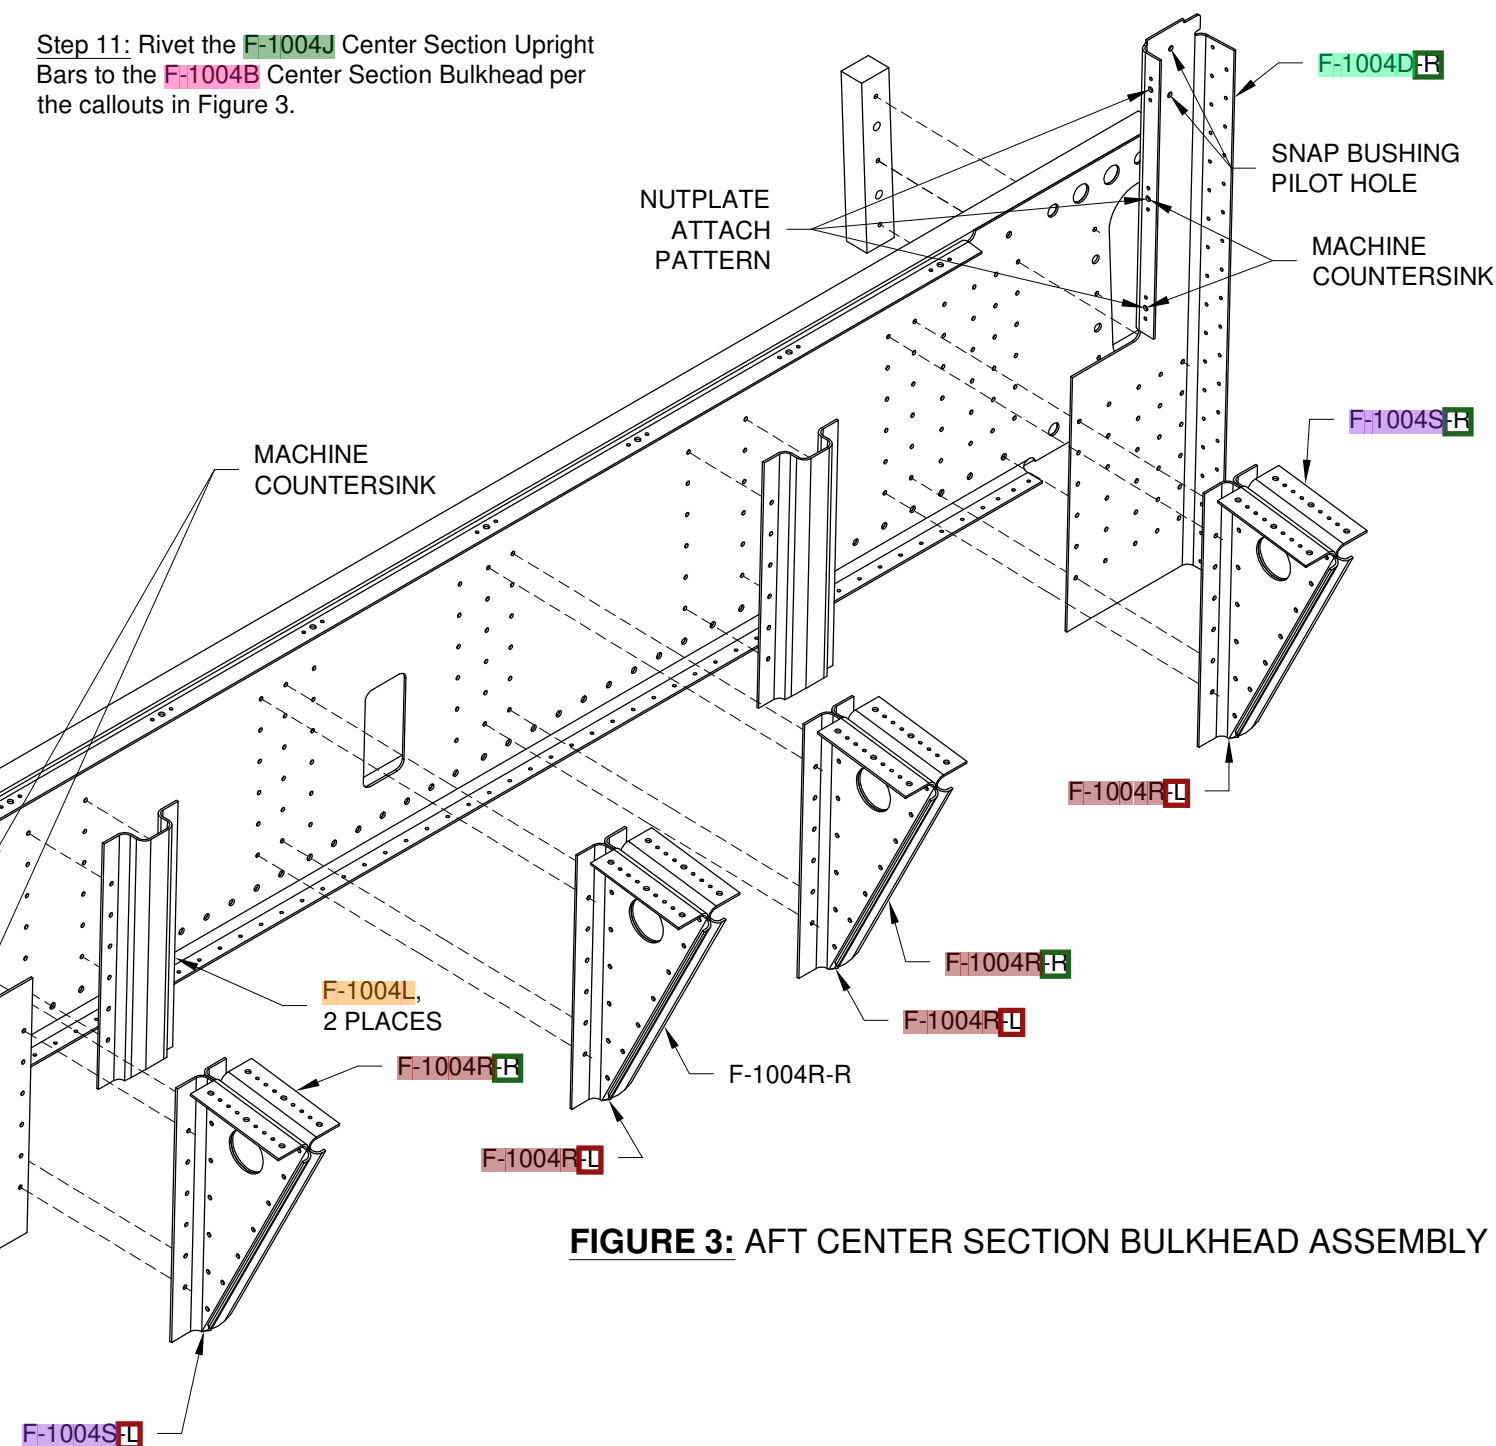

FIGURE 3: AFT CENTER SECTION BULKHEAD ASSEMBLY
Step 8: Disassemble the aft center section bulkhead assembly and deburr all edges. Enlarge the snap bushing pilot holes as indicated in Figure 3 to 3/4 diameter. Machine countersink the all nutplate attach holes for the head of an AN426AD3 rivet. Machine countersink the #30 holes on the forward side of the F-1004J Center Section Upright Bars for the head of an AN426AD4 rivet. Prime the center section upright bars. Prime the remaining parts if/as desired.
Step 11: Rivet the F-1004J Center Section Upright Bars to the F-1004B Center Section Bulkhead per the callouts in Figure 3.
Step 3: Rivet the F-1004D-L and -R Center Section Bulkheads, F-1004L Center Section Hat Stiffeners and Aft Seat Rail Support Subassemblies to the F-1004B Center Section Bulkhead as shown in Page 25-5, Figure 3 and per the callouts in Figure 1.